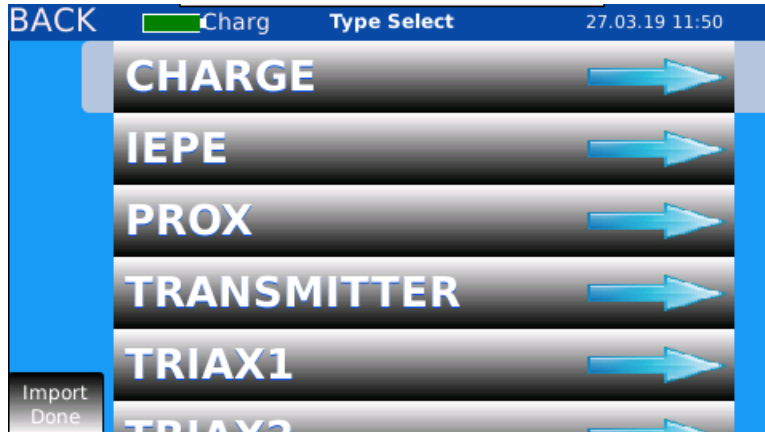

Figure 7. "Import Done" appears in the bottom left corner.
- e. Once import is finished, the screen will indicate that the import is done (Figure 7). To view sensors, first select a category type.